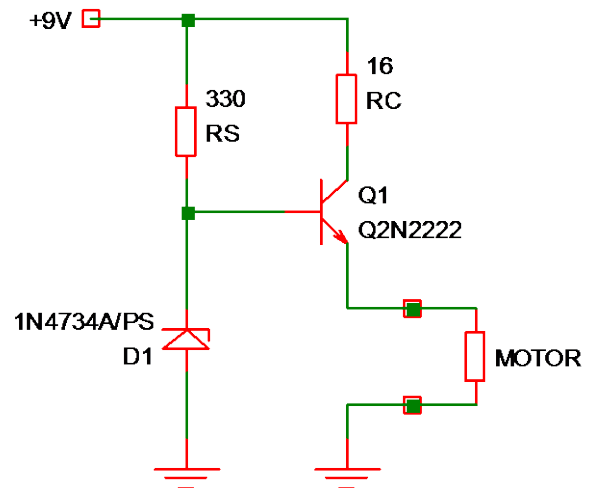

Fig. 1: Zener follower using a 2N2222 transistor to drive a DC motor with 5V.
• Step 1a: Build the zener follower shown in Fig. 1.